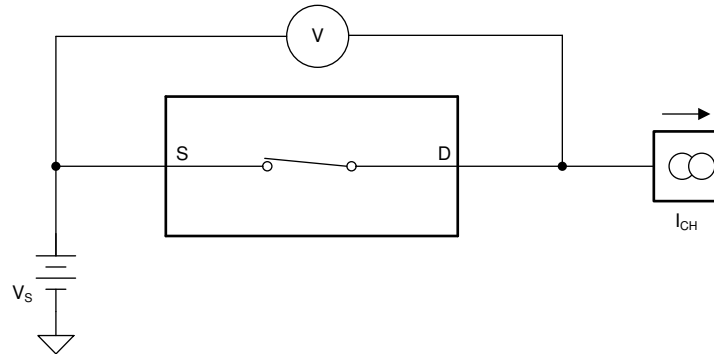

Figure 26. On-Resistance Measurement Setup
(1) X denotes *don't care*.
The on-resistance of the MUX36xxx is the ohmic resistance across the source (Sx, SxA, or SxB) and drain (D, DA, or DB) pins of the device. The on-resistance varies with input voltage and supply voltage. The symbol R_{ON} is used to denote on-resistance. The measurement setup used to measure R_{ON} is shown in Figure 26. Voltage (V) and current (I_{CH}) are measured using this setup, and R_{ON} is computed as shown in Equation 1: